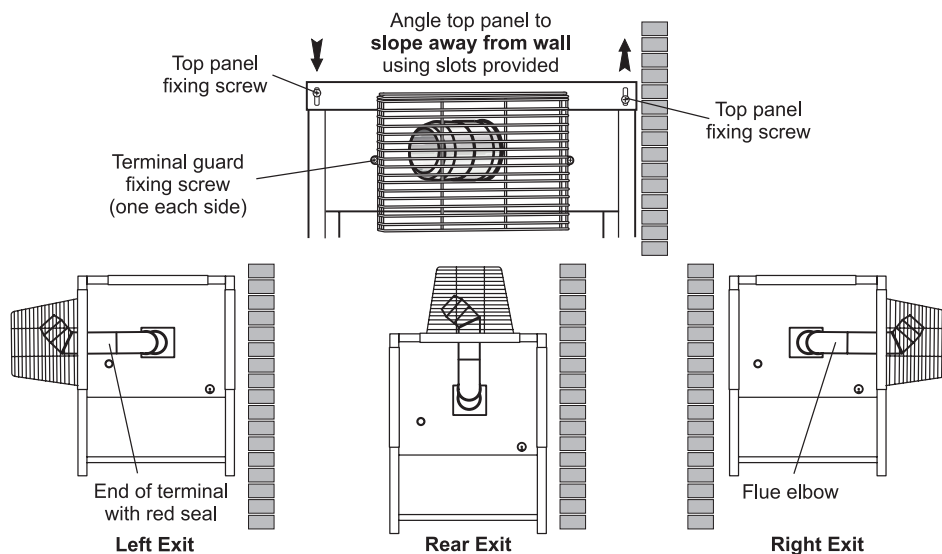

Figure 4-1: Standard low level flue provided with Outdoor Module
11. The top panel of the casing has been designed so that it may be fitted to create a slight slope away from the side positioned against the wall. To tilt the top panel, loosen the four top panel casing screws and push down on the side furthest from the wall. Tighten the screws. See Figure 4-1.